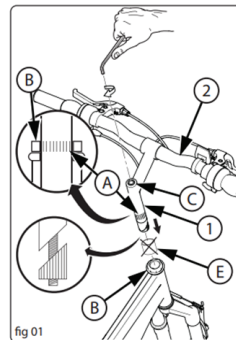

fig 01
WARNING: To prevent steering system damage and possible loss of control, the “MIN-IN” (minimum insertion) mark (A) on the stem must be below the top of the Locknut (B) (fig 01).